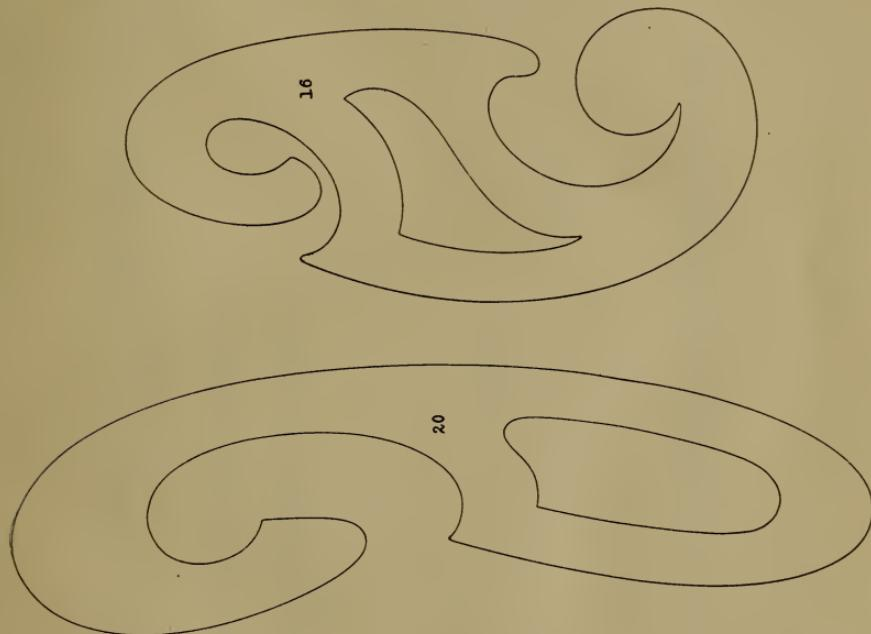

Fig. 9. Irregular Curves.
7. IRREGULAR CURVES OR SWEEPS. These are used for drawing smooth curves which are not parts of a circle, using either pencil or ruling pen. The two types of curves most useful are shown in Fig. 9.